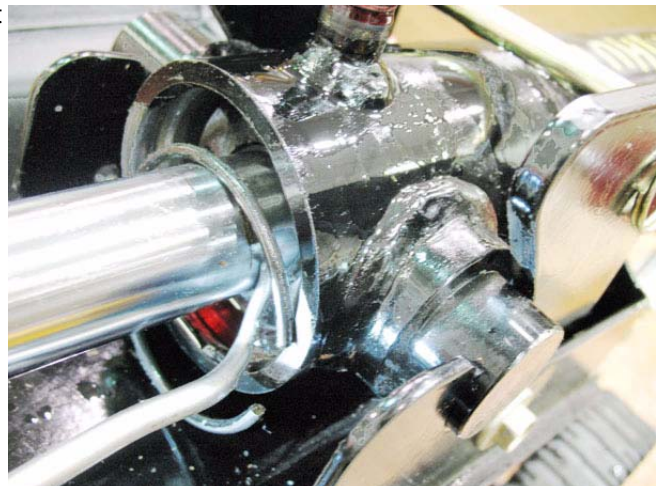

Figure 5.18
- 3.4. Pry the retaining ring out of its groove. See Figure 5.18.